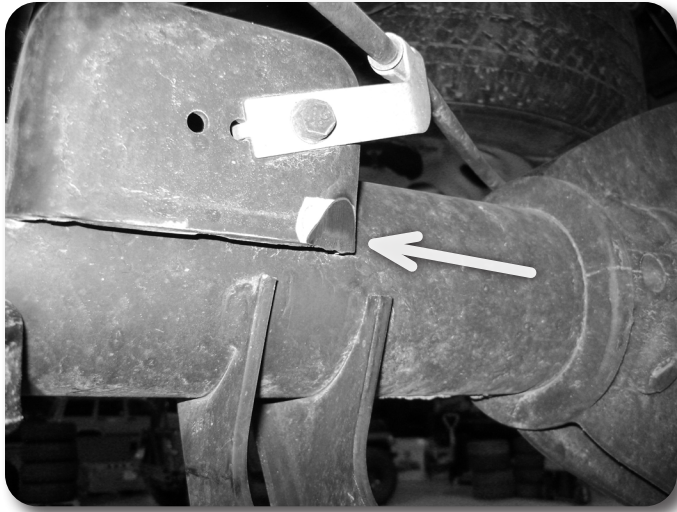

Figure 20
10. **INSTALLING NEW ZONE SHOCKS ONLY (Not Fox Shocks):** The passenger's side bump stop bracket on the axle must be trimmed slightly to add clearance for the new larger rear shocks. Grind the inside front corner to gain approximately 1/4" of clearance. **Figure 20** Paint bare metal to prevent rust.